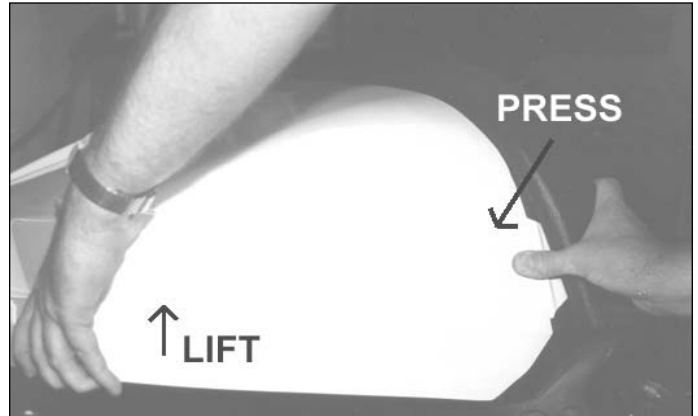

Figure 18 - First Tab on Front Body
2. Reaching under body, remove (2) nuts that attach bumper cover to top shock absorber bolts.
4. Push in on front body where first tab engages console, while lifting front edge of body with other hand. Tab will snap out of console, Figure 18.